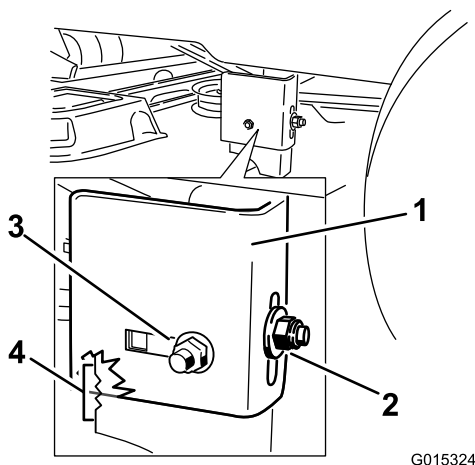

Figure 50
9. Loosen the rear locking nut on the hanger bracket (Figure 50).
10. Loosen the side locking nut on the hanger bracket just enough to allow the hanger to be adjusted (Figure 50).
13. Stop the deck at the adjusted position, and tighten the side locking nut on the hanger bracket to hold the new position (Figure 50).